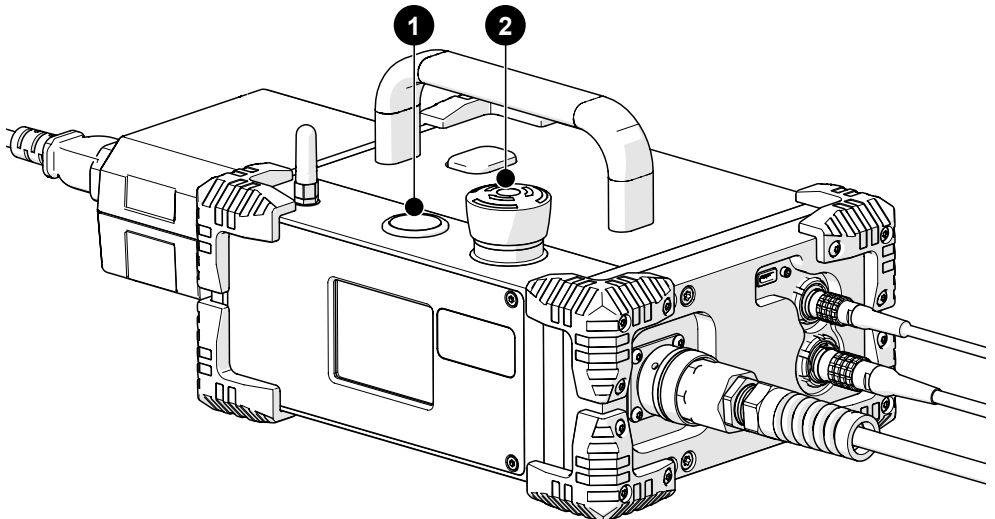

Fig. 68 - System controller
3. Locate the **2** red off push-button on the system controller. Rotate this button clockwise to unlatch (Fig. 68).
4. The **1** power button (Fig. 68) on the system controller activates the system.